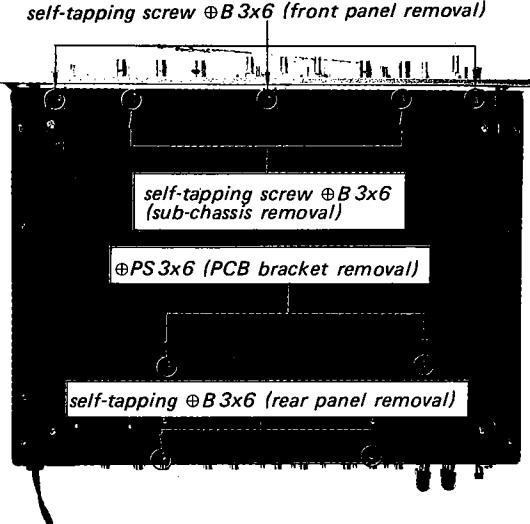
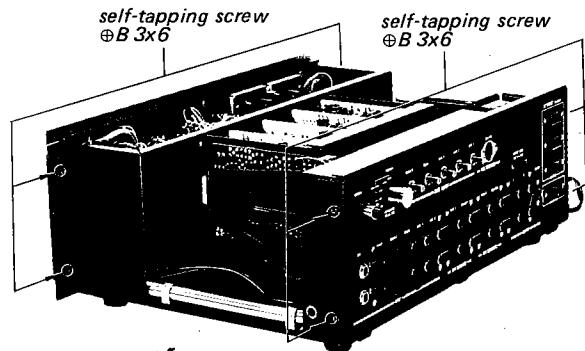

Fig. 2-4. Bottom view
Fig. 2-5. Front-subchassis and rear panel removal
5. Remove the three self-tapping screws (\oplus B 3x6) at the front bottom of the chassis as shown in Fig. 2-4. This frees the front panel.
2. Remove the two self-tapping screws ($\oplus B\ 3\times 6$) at each side of the chassis (see Fig. 2-5) and two self-tapping screws ($\oplus B\ 3\times 6$) at the front bottom of the chassis as shown in Fig. 2-4. This frees front subchassis.
2. Remove the two screws (\oplus PS 3x6) securing the PCB mounting bracket to the chassis from the bottom as shown in Fig. 2-4.
2. Remove the two self-tapping screws (\oplus B 3x6) at each side of the rear panel as shown in Fig. 2-5.
3. Remove the two self-tapping screws (\oplus B 3x6) at rear edge of the bottom as shown in Fig. 2-4. This frees the rear panel.